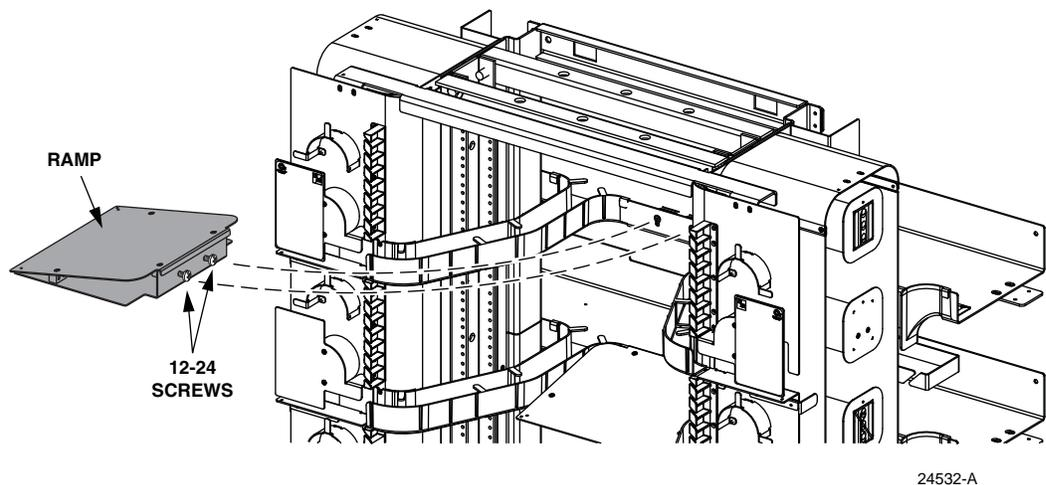

Figure 14. Install Cable Ramp
3. Starting at the top or bottom, hang each cable ramp on the rear cable trough while inserting the screw heads into the tear-drop holes. See Figure 14.